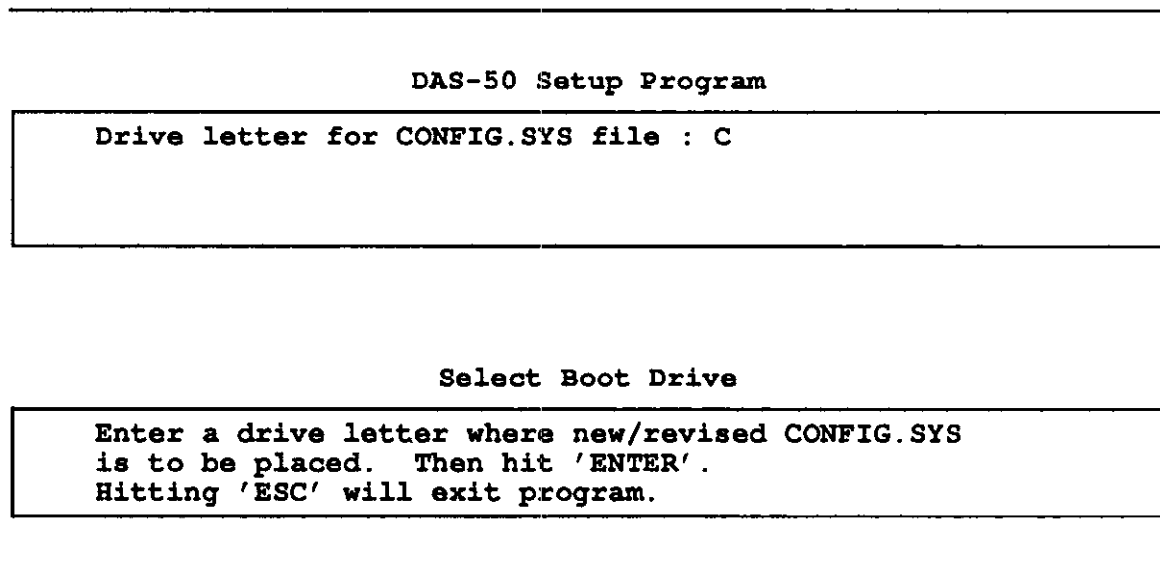
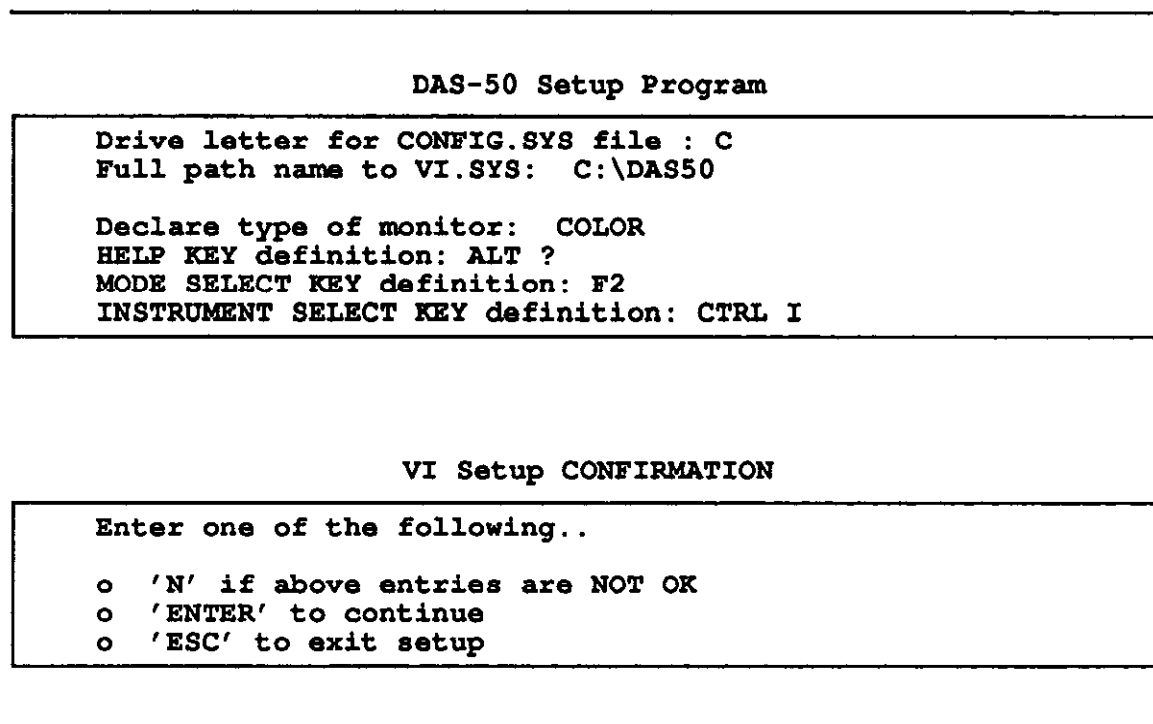

Figure 3-2. Selecting the Boot Drive
Figure 3-8. Confirming the System Setup
The program will then prompt you for the information required by the system driver (*VI.SYS*). Follow the instructions given. Sample screen dialogue is provided in Figures 3-2 through Figure 3-8.
4. You will now be asked to confirm your selections. (See Figure 3-8.) If you wish to change an entry, press **[N]** and the program will return to the Boot Drive Selection Screen. To return to DOS, press **[Esc]**. Otherwise, press **[↵]**.